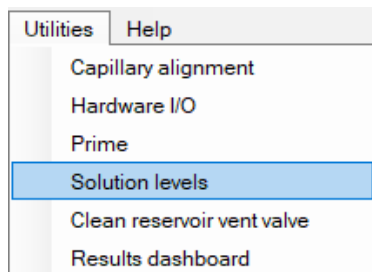

Figure 100 Solution Levels utility
- 1 From the **Utilities** drop-down menu, select **Solution levels** (**Figure 100**).